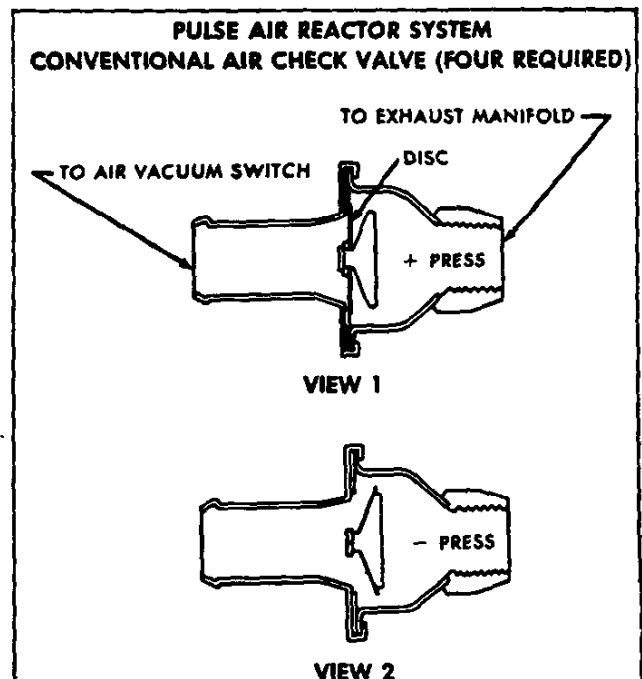
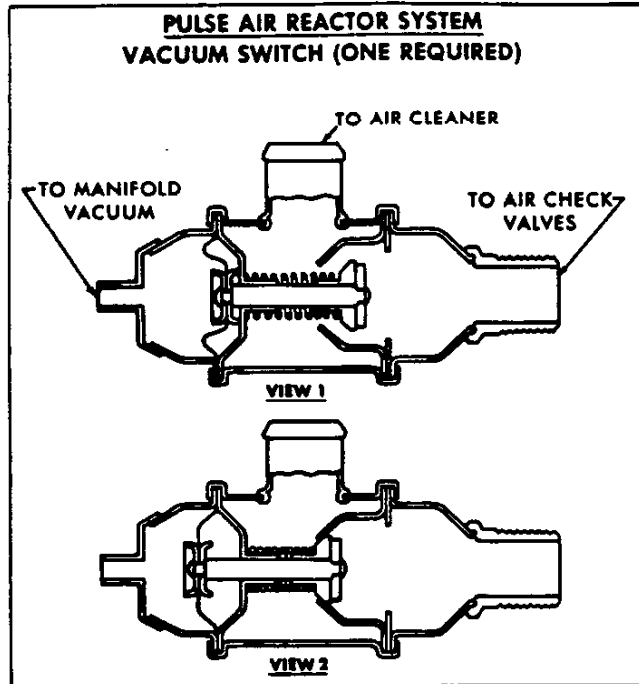

Fig. 25—PAIR Check Valves
Fig. 26—PAIR Vacuum Switch
an exhaust emission control that is used to reburn engine exhaust gases to reduce the hydrocarbon (HC) and carbon monoxide (CO) content. The PAIR system consists of four conventional air check valves (fig. 25), one located on each of the four exhaust manifold pipes adjacent to the cylinder exhaust port, and a vacuum switch (fig. 26) through which filtered air flows on its way to the four check valves.